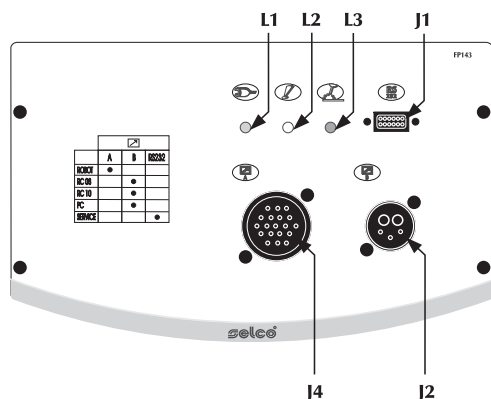

Fig.3
2.1.3 Främre kontrollpanel FP143 (Fig. 3)